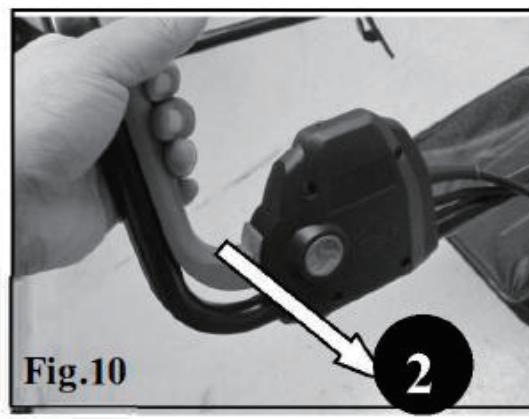

Fig.10
- Pull the switch lever (2) upward to the handle to start the mower and release the button (see fig. 10)